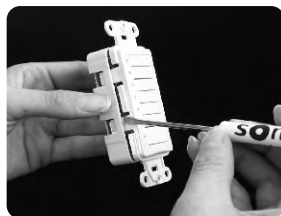

Figure 1.
1. Using a small flat blade screw driver, carefully separate the Switch Base Assembly from the Faceplate (as shown in figure 1).